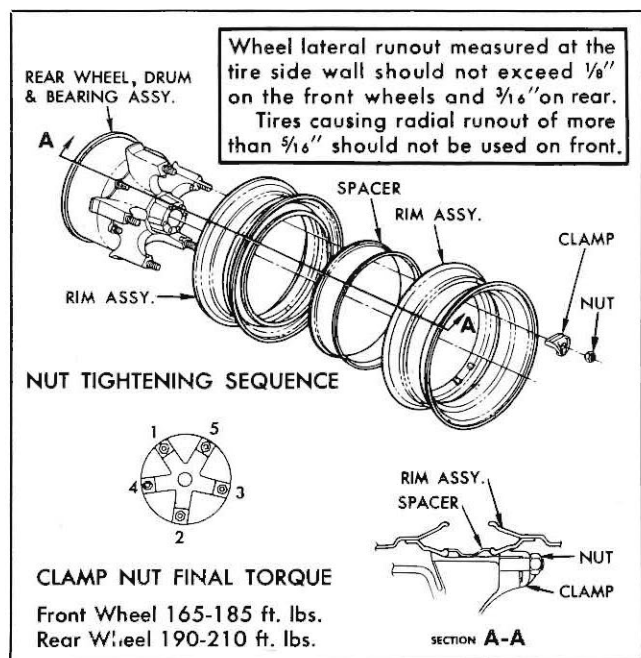

Fig. 2—Truck Cast Spoke Wheels
The following procedure is recommended for assembling demountable rims on Chevrolet truck cast spoke dual rear wheels (refer to Fig. 2).
6. Start tightening the clamps uniformly to a low torque (approx. 40-50 ft. lbs.). To insure drawing the rims up evenly, the clamps should be tightened in a cross-diameter sequence as shown in Figure 2.